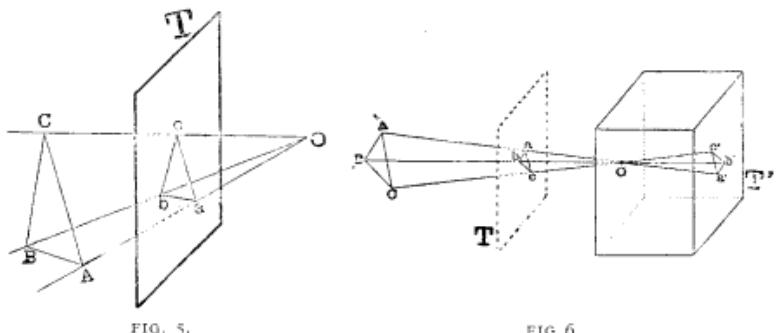
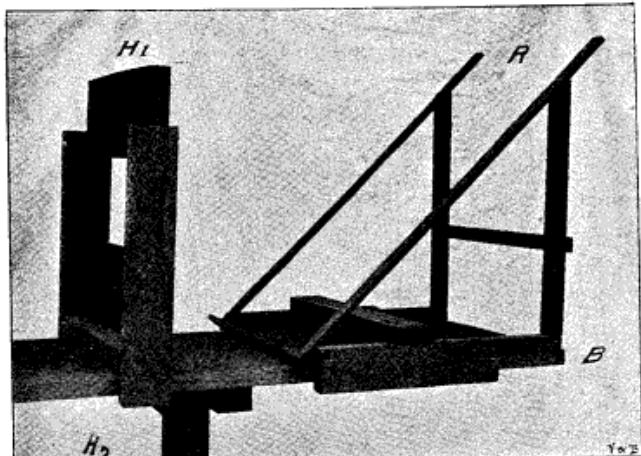

FIG. 5.
FIG. 4.
The reason why we have selected a female neck for illustration is to be found in the fact that the photographer is but rarely called upon to portray a bare male neck, whilst he often has to take portraits of ladies in low cut dresses. The trunk is the seat of the vital organs, its skeleton comprises the spinal column, ribs and the pelvis; outwardly we distinguish chest, shoulders, neck, abdomen and pelvic region. Of the skeleton we need only consider the collar-bones and the ribs; the former (fig. 2 d O and fig. 4 d O) are very discernible in men and children, but very little or not at all in the case of well-nourished women; further, in men and slight women the ends of the upper ribs, where they join the sternum and the ribs themselves, become visible.
Of muscles we can distinguish the great pectoral (fig. 5 P) and the deltoid or triangular arm muscle on the shoulder (fig. 6 and 6 a A); both again are more or less obliterated in the female sex by superlaying fatty tissue (fig. 4 a-f W), while the great pectoral is covered by the bosom. At the shoulder we notice the two shoulder-plates (scapulæ, fig. 7 C R) covered by the trapezius muscle and the muscle S (fig. 6) respectively (fig. 4 f), which
Let us consider the spectator's eye looking at objects of which A, B, C, are the points (fig. 5); let us represent this eye by a single point (O) which will be its optical centre. Suppose a transparent glass (T) to be placed between the eye and the objects it sees according to the vertical direction. The visual rays (OA, OB, OC) meet the glass (T) at the points a, b, c, which for the eye (O) seem superposed on the points A, B, C, of which they are a sort of reversal. Look-
Next a word or two about the sliding parts resting on  $B B$ . Turning to fig. 4, we see at a glance the simplicity of the light wooden frame work which holds the reflector. It is made, of course, to slide easily along  $B B$ , by means of small strips of wood fastened to the side pieces, which form a groove very similar to that shown in fig. 2. (It may here be said that the best reflector is a sheet of white smooth—but not shiny—cardboard. A very good but cheap quality can be bought for about two pence per large sheet). For most purposes, when working with a top light, it will be found convenient to have this reflector sloped at half a right angle ( $45^\circ$ ) to the vertical. But if the apparatus is being used in a room with an ordinary window it may be better to turn the reflector holder on its side, and reflect the light sideways, as it were. Top (sky) light is, however, always to be preferred for evenness of illumination.